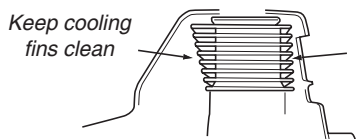

Figure 25
- Remove all dirt and debris from the engine, check the cooling fins and air cleaner for clogging, and clean as necessary. See Figure 25.